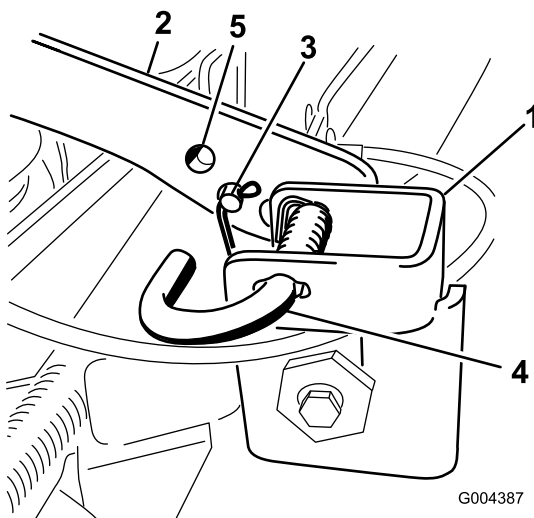

Figure 12
15. From the right or left side of the tractor, locate the rear deck lift arm (Figure 12).
19. Remove the clevis pin and move the lift cable end loop to the hole indicated in Figure 12. Secure the lift cable with the clevis pin and cotter pin previously removed.
18. Remove the cotter pin and clevis pin that secures the lift cable to the lift arm (Figure 12).